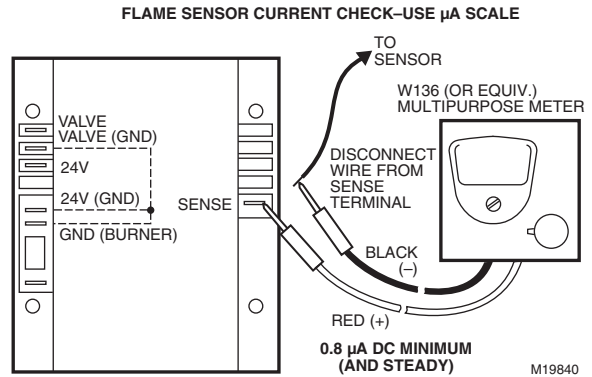

Fig. 6. S89 flame current measurement.
1. Connect a meter, set to the dc microammeter scale, in series with the flame sensor as shown in Fig. 6. Use the W136 Test Meter or equivalent. Connect the meter as follows: